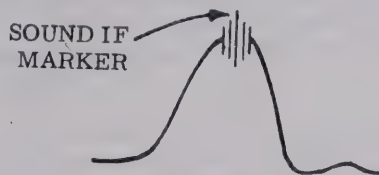

Figure 2-11. Typical Sound IF Response Curve
d. Adjust the IF trimmers or slugs for maximum amplitude and symmetry of pattern about the marker as shown in figure 2-11.